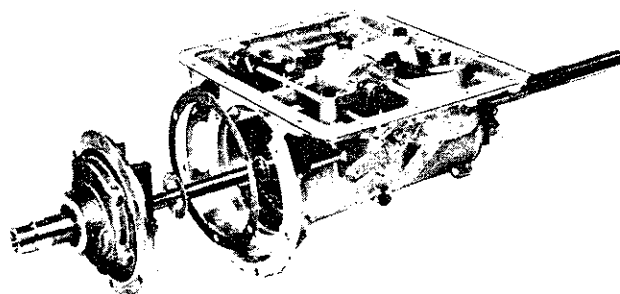

Fig. 50—Installing pump assembly
(1) Position the selective tabbed thrust washer using vaseline to the pump assembly, locating tabs in recesses provided.
(2) Position a new gasket onto the pump housing mounting face, then carefully install assembly to transmission casing (Refer Fig. 50).
(3) Install the 6 retaining 3/8" AF head screws and washers and tighten evenly to specified torque.